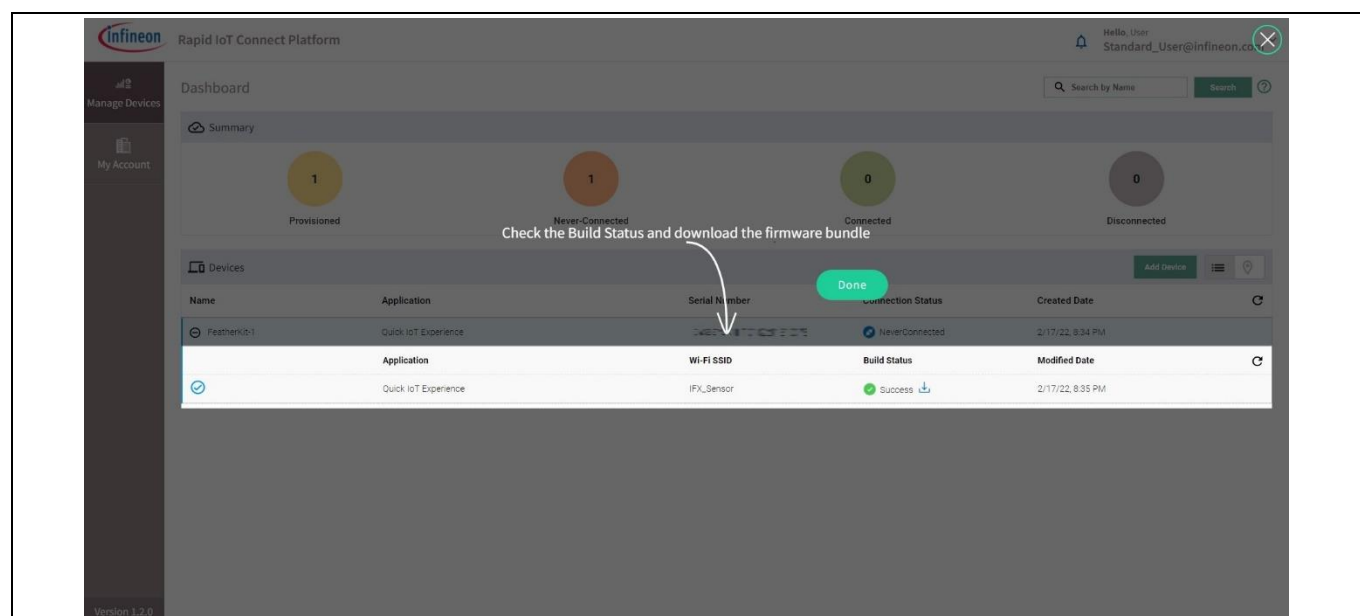

Figure 13 Device management dashboard
- After you click **Submit**, a custom *hex* file will be built for your device, and a software bundle will be generated for programming your development kit, as shown in Figure 13.
Depending on your laptop or PC's operating system (Windows/Linux/Mac), you will receive a downloadable package that includes a *hex* file firmware image and a programming tool for your KIT_CSK_BGT60TR13C kit. The package will be in the form of a zip file. To view the detailed device status, click on the ⊕ (expand) button. To download the zip package, click ⬇️ (download) next to **Success** on the application as shown in Figure 13.